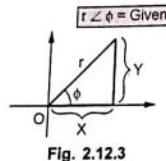

Fig. 2.12.3
- Let a phasor is represented in polar form as shown in the Fig. 2.12.3.
From the Fig. 2.12.3,